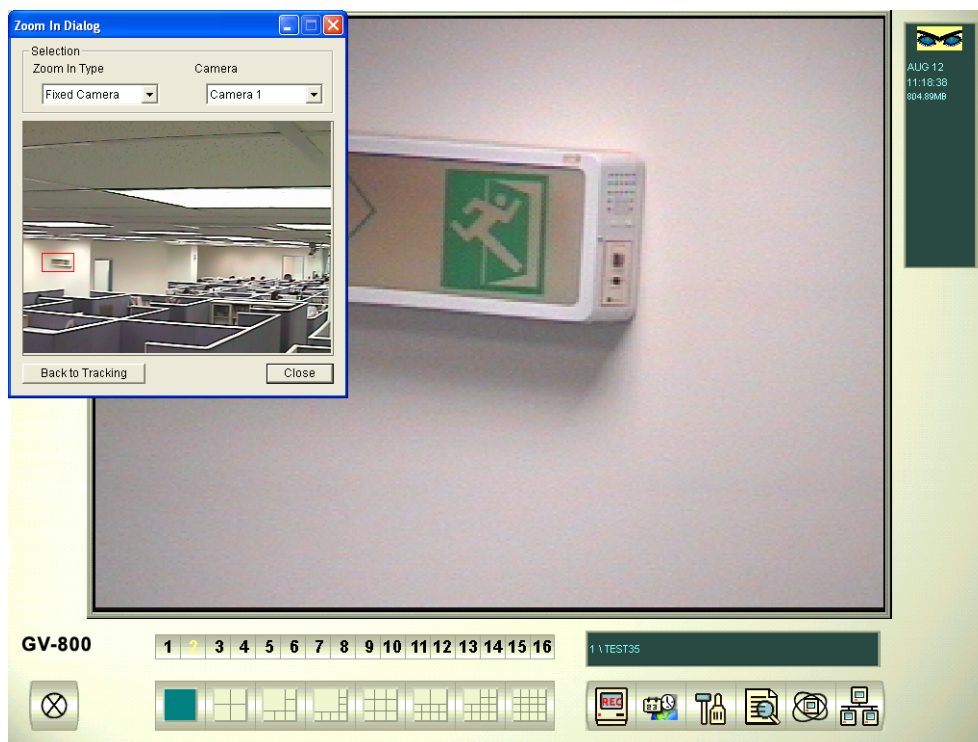

Figure 2-15 The outlined area in the Dialog window is magnified in the main screen
1. Click the Configure button, point to Object Tracking Application, and click Object Tracking View to open the Zoom in Dialog window, overlapping in the main screen. Refer to Figure 2-15.